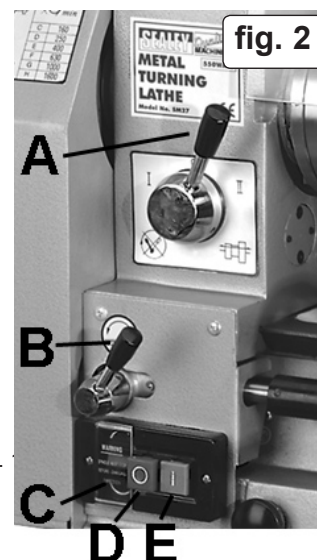

fig. 2
- 4.1.1. Check that the forward/reverse switch (fig. 2.C) is in the forward position and that the leadscrew lever (fig. 2.A) is on zero.
- 4.1.2. Set the automatic feed lever (fig. 2.B) to disengaged - turn clockwise.
- 4.1.5. Switch on the lathe by pushing the green switch (fig. 2.E).
- 4.1.7. Switch off the lathe by pressing the red switch (fig. 2.D). Disconnect from the mains supply.
4.7.3. Set the speed and forward/reverse switch to suit the job. The leadscrew lever (fig. 2.A) should be at position O.
4.8.1. Proceed as in 4.7. but in 4.7.3. set the leadscrew lever (fig. 2.A) to I or II. With the gear set as supplied, position I will feed the tool at 0.075mm/rev and position II at 0.15mm/rev (see Auto Feed for Turning, fig. 7). Ensure that the cross slide lock (fig. 1.8) is not applied.
4.8.3. Turn the auto feed lever (fig. 2.B) anticlockwise to engage the leadscrew. The tool will now move to the left and begin cutting.
- 4.9.8. With the tool positioned for the first cut, ensure that the automatic feed is engaged (fig. 2.B) and that the leadscrew lever (fig. 2.A) is set to I or II as required for the thread.
- 4.9.12. Reposition the tool for the second cut by moving the forward/reverse switch (fig. 2.C) to reverse and starting the lathe. When the tool clears the start of the thread switch off the lathe.